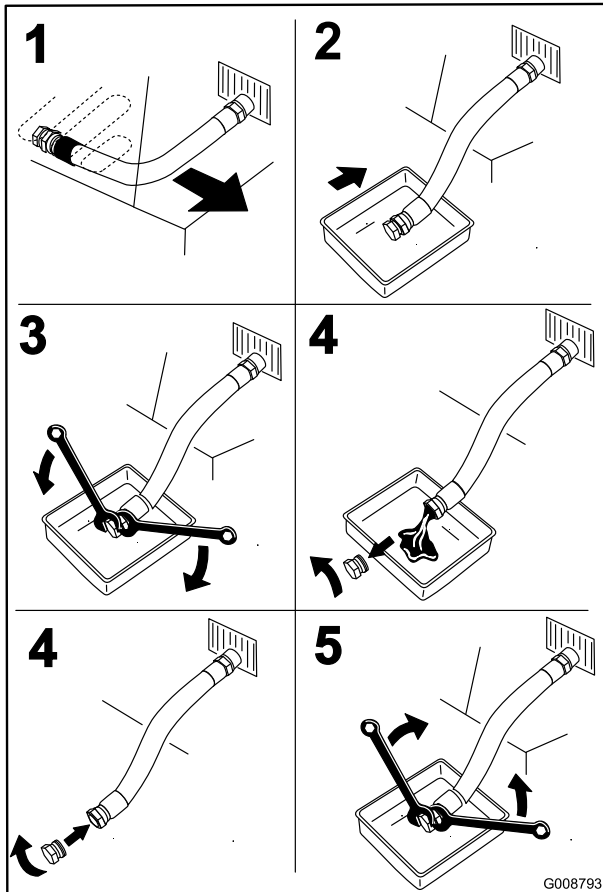

Figure 39
4. Change the engine oil (Figure 39).